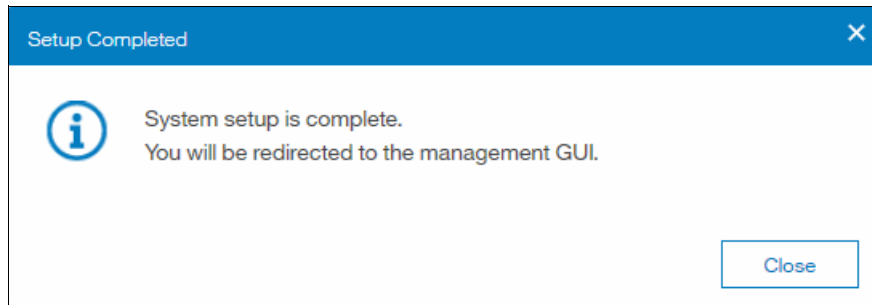

Figure 6-106 Setup Completed status pane
4. On the Setup Completed (Figure 6-106 on page 240), click **Close**.